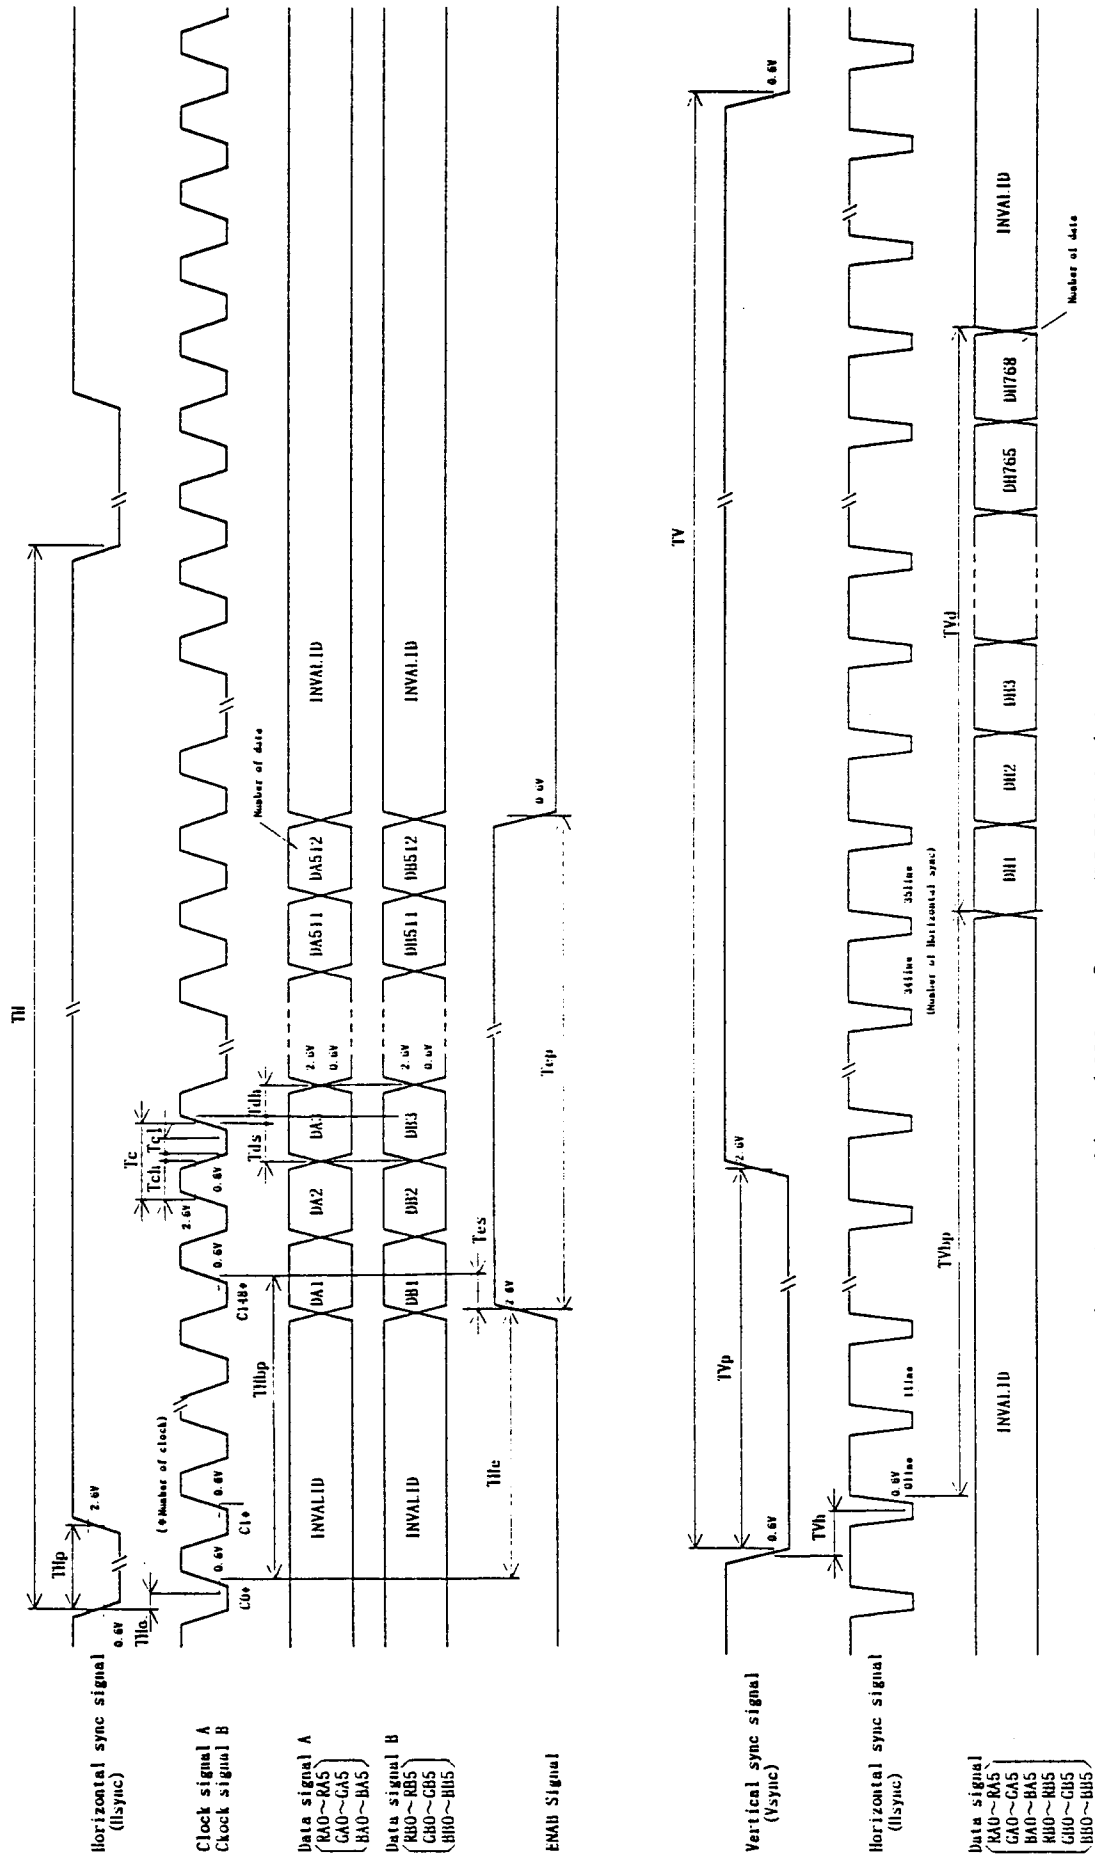

Fig.2 Input Signal Waveforms (H-V Mode)
Timing diagrams of input signal are shown in Fig.2 .
- ② When ENAB is fixed "Low", the display starts from the data of C148(clock) as shown in Fig.2 .
The vertical display start position is the 35th line from the falling edge of Vsync .(cf. Fig.2)